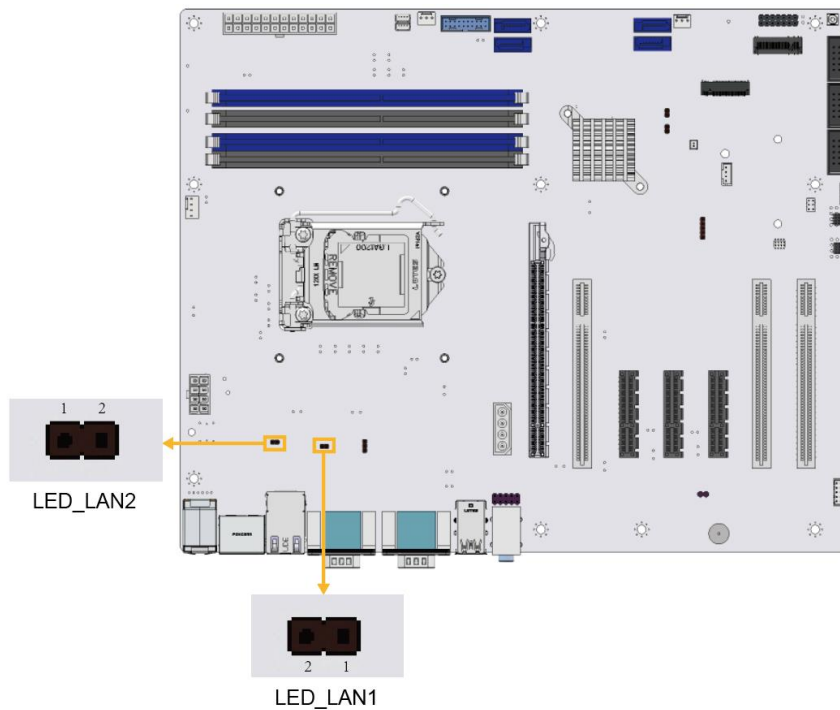

Figure 3-21: LAN LED Connector Locations
- CN Location:** See Figure 3-21